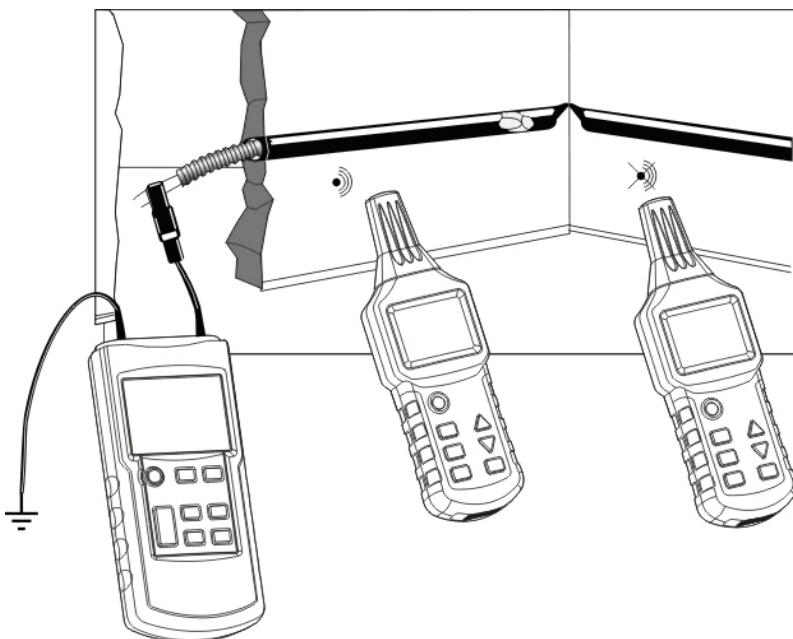

Fig.14
- The transmitter is connected to a metallic helical tube (flexible metallic tube or pipe) and to an auxiliary earth as shown in Fig. 14;